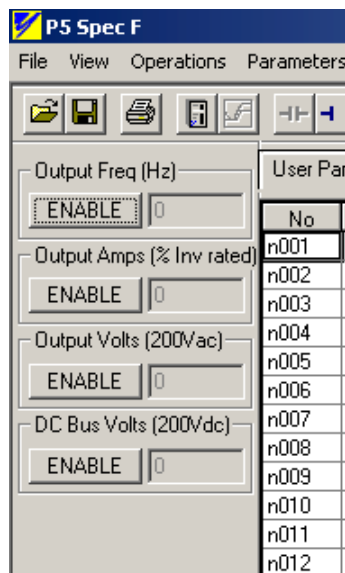

Figure 3.12: Monitor Started
4. Click on the enable button for each monitor parameter to start/stop the polling of each monitor parameter. The button toggles in and out to turn off or on that monitor parameter (Figure 3.12).